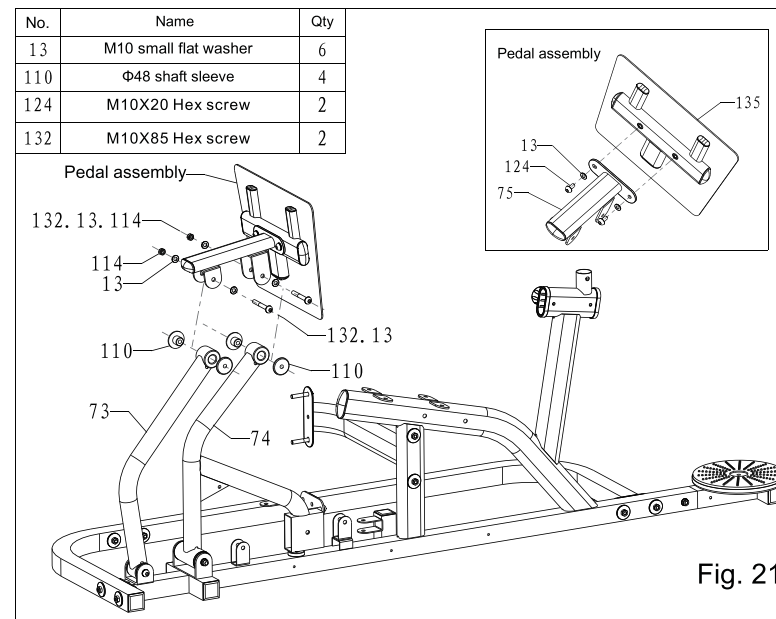

Fig. 21
Step 21: final assembly of back leg press frame head (as shown in Fig. 21)